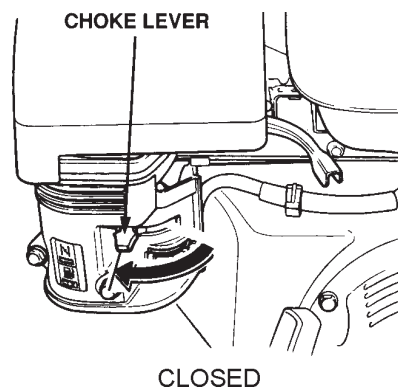

Figure 17. Choke Lever (Closed)
7. If the engine has started, slowly return the choke lever (Figure 17) to the **CLOSED** position. If the engine has not started repeat steps 1 through 6.